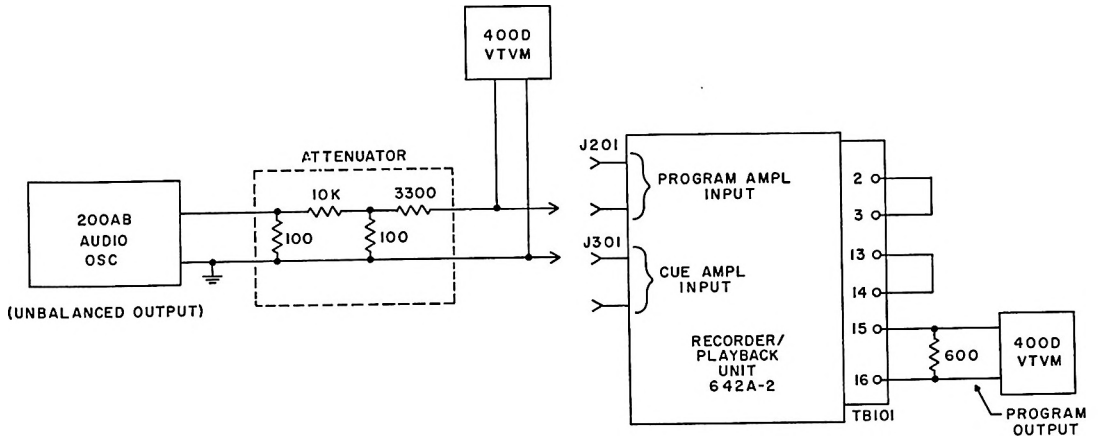

Figure 5-1. 642A-2 Recorder/Playback Unit, Test Setup
- d. Attenuator (see figure 5-1).
Connect the 642A-2 Recorder/Playback Unit and test equipment as shown in figure 5-1. Apply power to all units. Allow a 2-minute warmup period before making any tests. Remove the top cover from the 642A-2.
- a. Connect the unbalanced audio oscillator output, through the attenuator, to the program amplifier input, J201, as shown in figure 5-1.
a. Connect the unbalanced audio oscillator output, through the attenuator, to the cue amplifier input, J301, as shown in figure 5-1.
d. Connect the 600-ohm output load and 400D vtm to terminals 15 and 16 of TB101 on the 642A-2 as shown in figure 5-1.